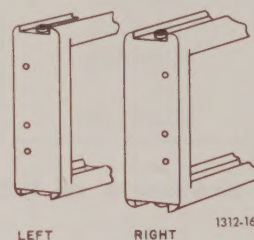
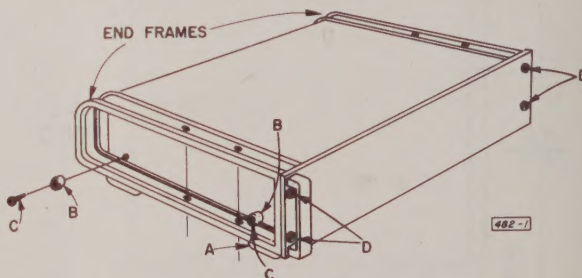

Figure 2-3. Position of panel-screw holes in front of end frames for bench mounting.
Figure 2-4. Method of mounting the end frames.
b. Select the left-side end frame by noting the position of the holes in the front ends, as shown in Figure 2-3. The rubber feet (P/N 5260-0710) must be at the bottom (A, Figure 2-4).
c. Place an aluminum notched clamp (B) over each of the four No. 10-32, 3/8-inch screws (C).
d. Attach the end frame to the side of the cabinet by inserting the four screws (C) with clamps, as shown, but do not tighten them down. The cutout portion of the clamp must extend over the ridge of the end frame, with the clamp flat against the cabinet.
e. Install and tighten the panel screws (D) through the panel and into the end frame. (The front of the frame must be tight against the panel.) To do this, insert a screwdriver through the corresponding hole in the handle.
f. Tighten the four screws (C).